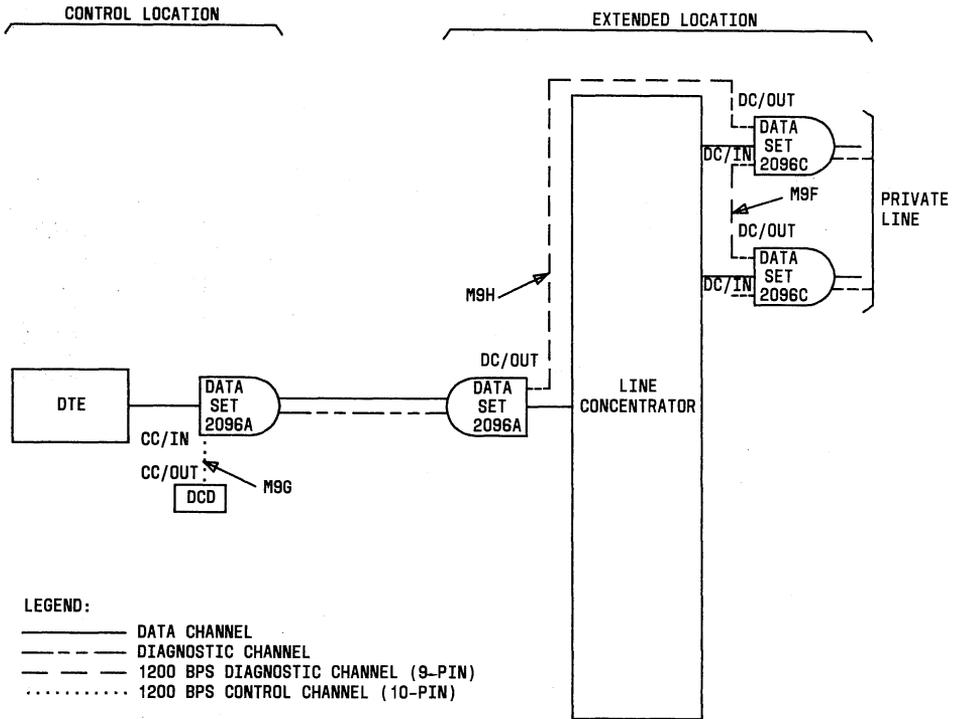

Fig. 32—Extended Service With Line Concentrator
3.08 Figure 32 shows an extended service where a line concentrator or multiplexer is employed. The line concentrator allows several data sets to bid for the channel of the DS 2096A. The network diagnostic system is able to extend around the concentra-